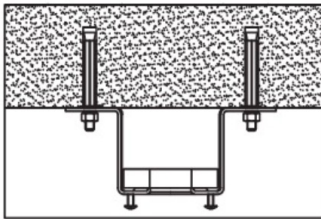

Fig. 3
Drill two holes of a proper depth (an 8-mm diameter) and introduce two expansion screws on the holes; then, fix the installation bracket (1) to the expansion screws with the wood screws and tighten them with the expansion screws nuts. Fig. 3